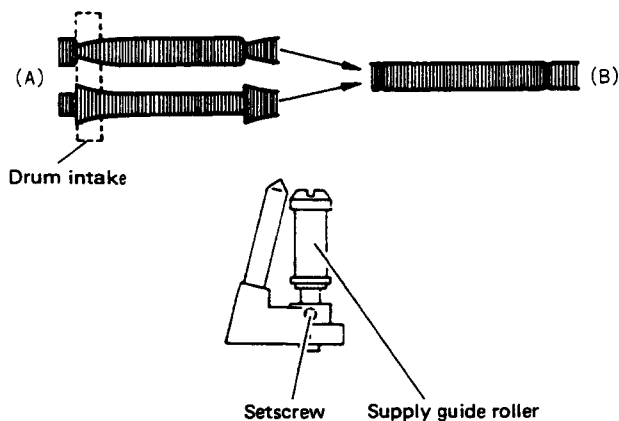

**Fig. 2-27** Normal waveform variation
7. Turn the Tracking control to both extremes and confirm that variation of the FM waveform is nearly linear (Fig. 2-27).